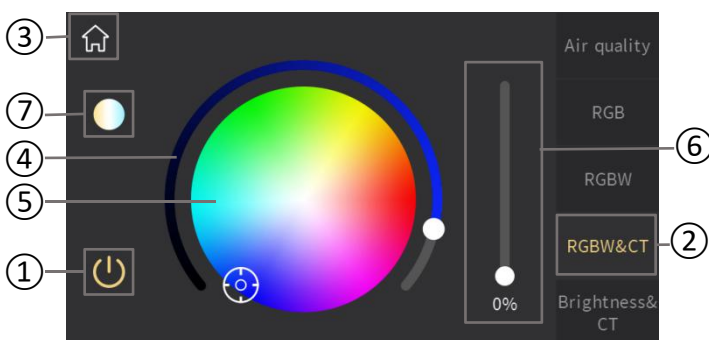
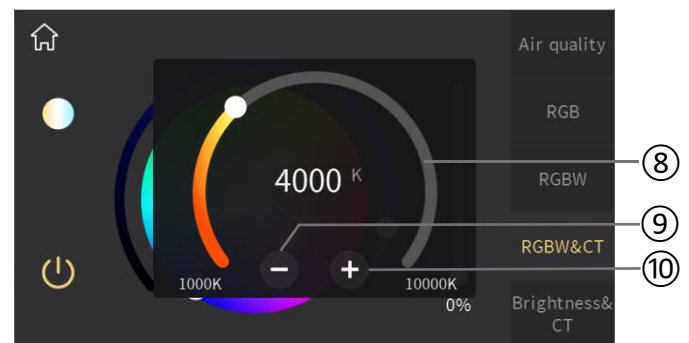
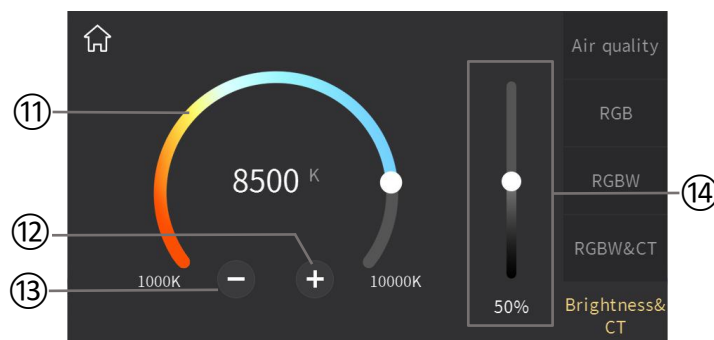

Fig.2.7.3
Fig.2.7.4
Fig.2.7.5
- ⑥ **This slider for adjusting the brightness of white light, sliding the slider to adjust the brightness effect of white light.**
When RGB dimming is configured as RGBW+Color Temperature, function page interface is similar to RGB but more a slider⑥ in the right side, as shown in Fig.2.7.3 and Fig.2.7.4. The adjustment of the white light is independent of the RGB type, RGB color adjustment refers to that of RGB type above, which is no longer described herein.
- ⑦ **Enter the color temperature controlling interface by touching this icon, as shown in Fig2.7.4;**
⑧ **This ring slider is to adjust the color temperature of RGB lamp;**
⑨ **Increase the color temperature value by touching this icon;**
⑩ **Decrease the color temperature value by touching this icon;**
Color temperature control interface shown as Fig.2.7.4, by sliding the ring slider⑧ or touching the icon⑨ and icon⑩ to control the color temperature of RGB lamp, the adjustment range for each touch of icon⑨ or icon⑩ is 100K. After finishing the adjustment, touch the area outside the sub-window to return to the previous level function page, as shown in Fig.2.7.3.
⑪ **This ring slider is to adjust the color temperature of RGB lamp;**
⑫ **Increase the color temperature value by touching this icon;**
⑬ **Decrease the color temperature value by touching this icon;**
When RGB dimming is configured as Brightness+Color Temperature, function page interface shown as Fig.2.7.5. Sliding the ring slider⑪ or touching the icon⑫ and icon⑬ to change the color temperature value, the adjustment range for each touch of icon⑫ or icon⑬ is 100K.
⑭ **Adjust the brightness of the lamp by sliding this slider.**